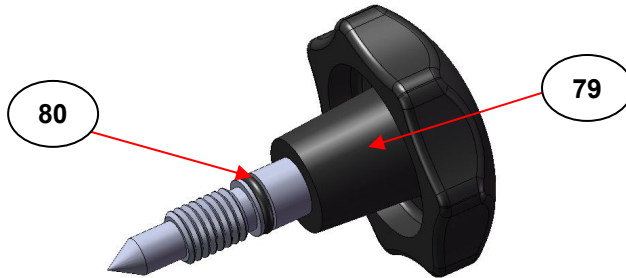

Fig 6. Low Tonnage Gauge Open/Close Valve Tap Assembly
that has been fitted, to stop any oil pressure pumped on the system from reaching it. The valve tap (79) is a tapered “needle” type fitting and will be closed when the tap handle (79) is turned hand tight in a clockwise direction. There is an O-ring (80) on the valve tap assembly that makes an oil-tight seal when fully closed. (See Fig 6.)
To bring the low tonnage gauge “on line” for load reading, the valve tap (79) on the manifold body (77) is opened. (79) is a needle type valve (See Fig 6.) and the tap handle only needs a **quarter to half turn maximum** anti-clockwise to open for the low tonnage gauge (75) to be switched on to register a tonnage load.